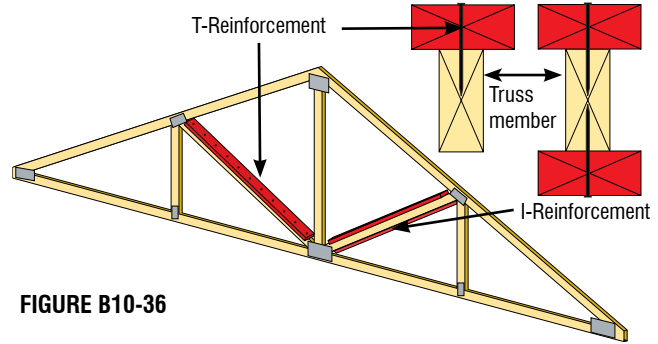

FIGURE B10-36
- ✓ I- and U-reinforcement are similar to T- and L-reinforcement, respectively, except that two (2) pieces of lumber are added, one to each narrow face of the Web. See Figures B10-36 and B10-37, respectively.